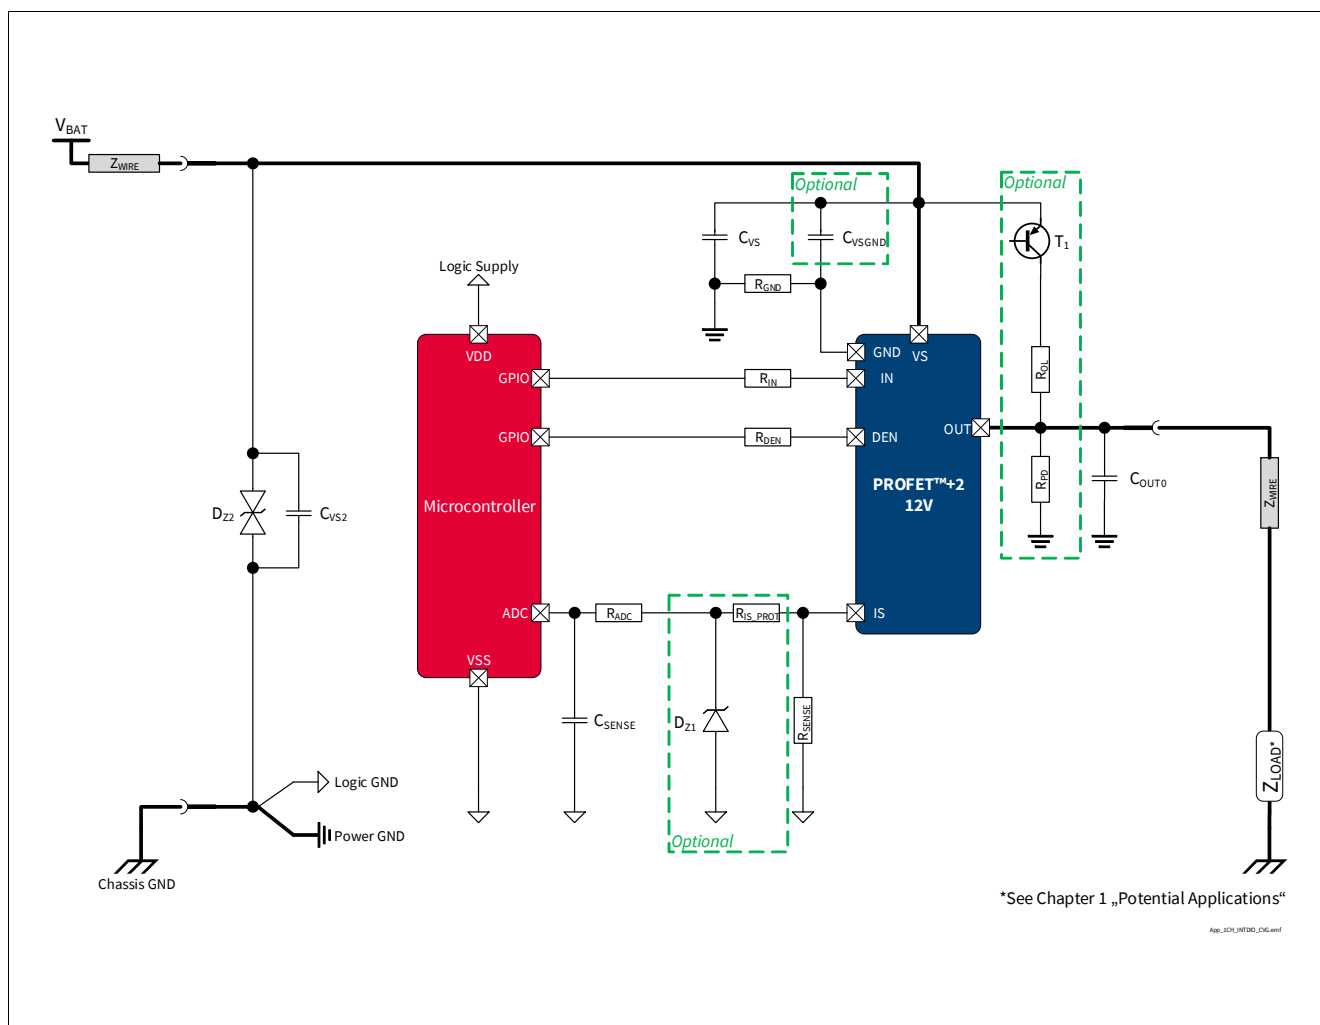

Figure 42 BTS7010-1EPA Application Diagram
1.02 , 2019-10-15	<p>P_8.7.2.1, P_8.7.2.7, P_8.7.2.8 updated (added in Note or Test Condition: link to Figure 25)</p> <p>P_7.5.2.4, P_7.5.2.5 updated (added in Note or Test Condition: DEN = "low"; link to Figure 19)</p> <p>P_7.5.2.12 updated (added in Note or Test Condition: see Figure 21)</p> <p>P_8.7.2.6 updated (added in Note or Test Condition: see Figure 26)</p> <p>P_9.7.2.1 updated (added in Note or Test Condition: See Figure 34)</p> <p>P_9.7.2.6 updated (Min./Max.: -45%/+45% → -34.5%/+34.5%)</p> <p>P_9.7.2.9 updated (Min./Max.: -38%/+38% → -25.5%/+25.5%)</p> <p>P_9.7.2.12 updated (Min./Max.: -34%/+34% → -22.5%/+22.5%)</p> <p>P_9.7.2.15 updated (Min./Max.: -22%/+22% → -13.0%/+13.0%)</p> <p>P_9.7.2.17 updated (Min./Max.: -9%/+9% → -8.1%/+8.1%)</p> <p>P_9.7.2.19 updated (Min./Max.: -6%/+6% → -4.6%/+4.6%)</p> <p>P_9.7.2.21 updated (Min./Max.: -5%/+5% → -3.9%/+3.9%)</p> <p>P_7.5.2.11 updated (added in Note or Test Condition: see Figure 19)</p> <p>P_4.2.2.6 updated (Max.: 13.5 mJ → 17 mJ)</p> <p>Figure 1, Figure 42 updated</p> <p>Chapter 1 updated (or LED equivalent → or equivalent electronic loads (e.g. LED modules))</p> <p>P_4.3.0.7 added</p> <p>Table 23 updated</p> <p>Chapter 5.1 updated (added: see Chapter 10 for the complete application setup overview)</p>